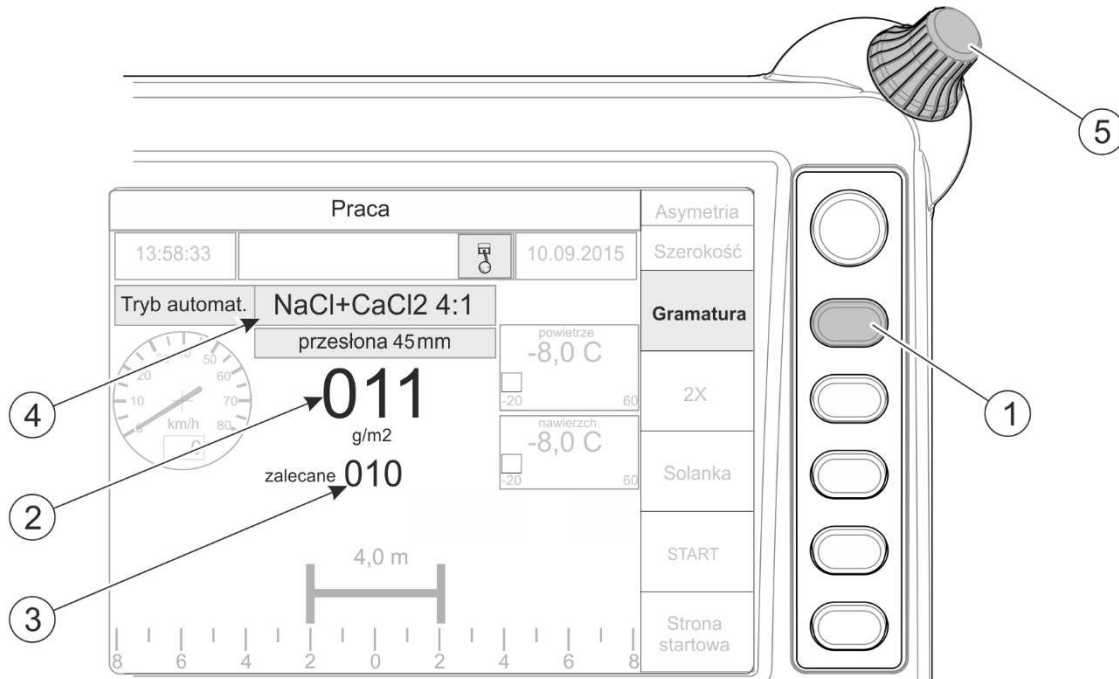

FIGURE 4.27 Correction in automatic mode (option)
On control panel working page ("Operation") (FIGURE 4.27), the operator can correct the dose for a defined automatic mode after selecting "Spreading density" function by means of push-button (1). Correction is made by means of knob (5). Recommended density (3) for a defined mode T1, T2 or T3 is displayed below spreading density set by the operator (2) (FIGURE 4.27).